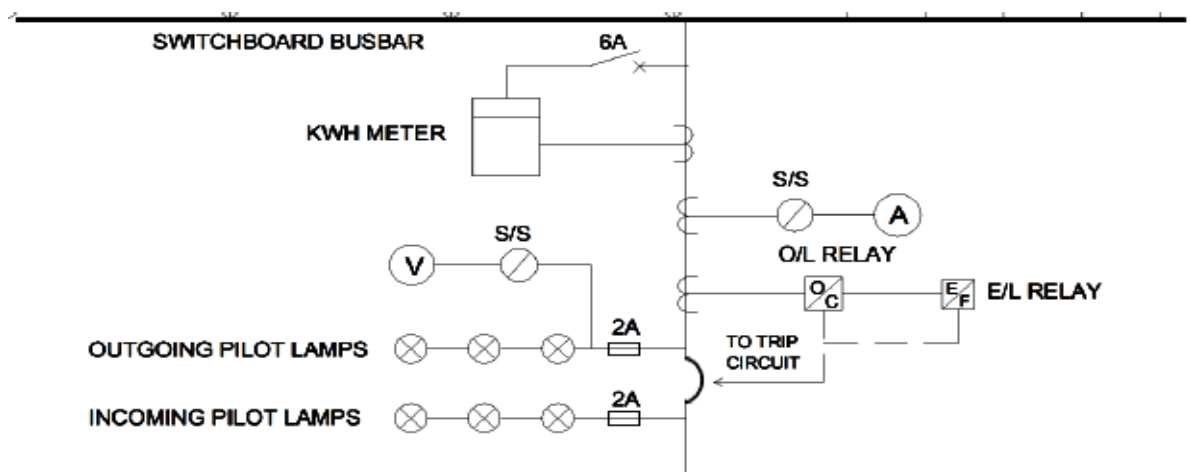

Figure 11-7 – Incoming accessories when $I_T > 300\text{ A}$
- ❖ **Figure 11-7** - for the incoming current more than 300 Amp, i.e. **$I_T > 300 \text{ A}$** .